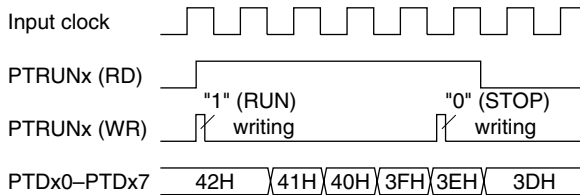

Fig. 4.9.10.1 Timing chart for RUN/STOP control
- (1) When reading counter data, be sure to read the low-order 4 bits (PTDx0–PTDx3) first. Furthermore, the high-order 4 bits (PTDx4–PTDx7) should be read within 0.73 msec (when fOSC1 is 32.768 kHz) of reading the low-order 4 bits (PTDx0–PTDx3).
- (2) The programmable timer actually enters RUN/STOP status in synchronization with the falling edge of the input clock after writing to the PTRUNx register. Consequently, when "0" is written to the PTRUNx register, the timer enters STOP status at the point where the counter is decremented (-1). The PTRUNx register maintains "1" for reading until the timer actually stops. Figure 4.9.10.1 shows the timing chart for the RUN/STOP control.